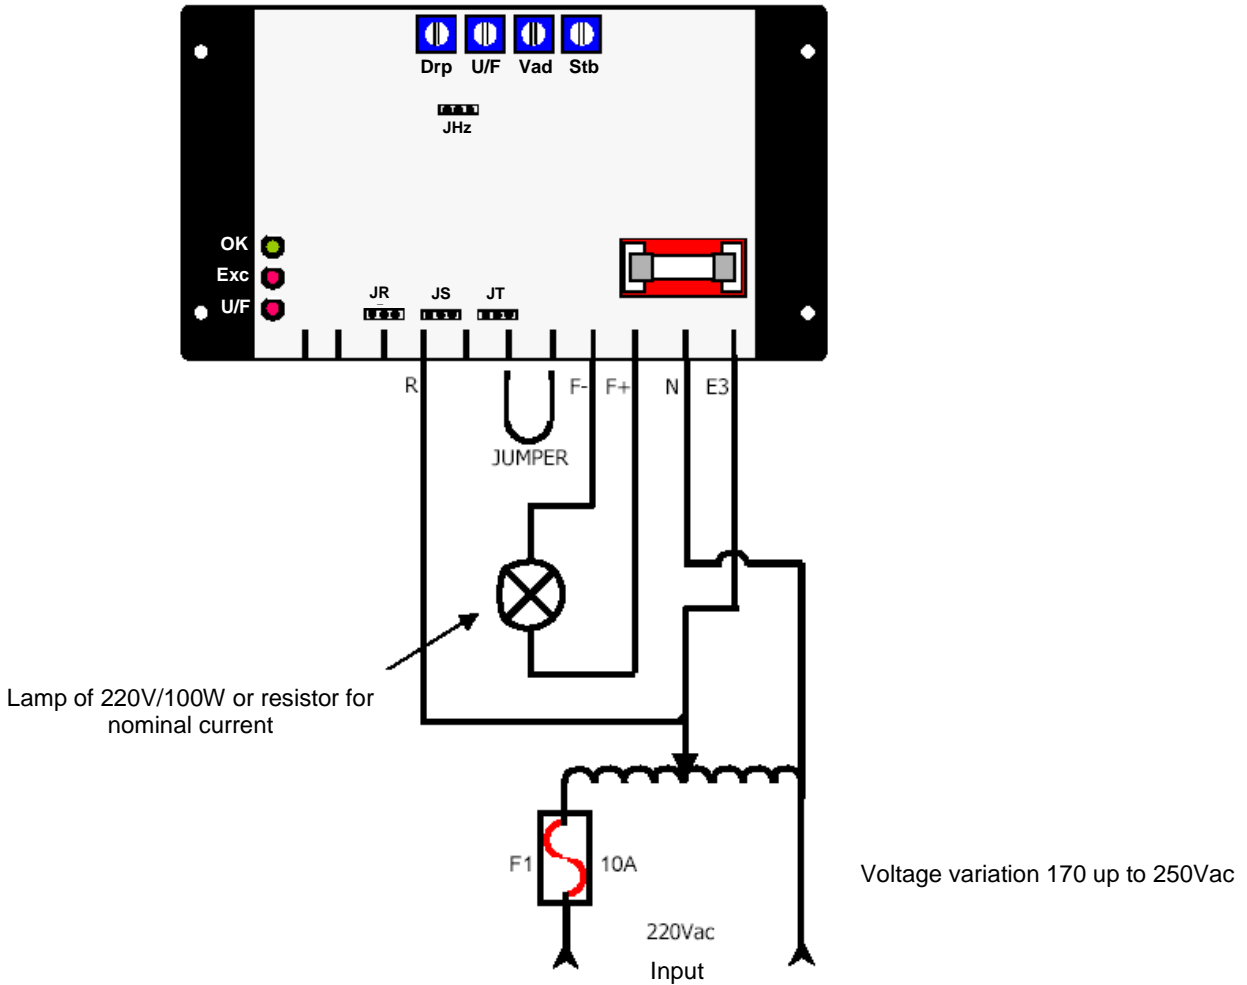

Figure 22.1: Regulator connection without alternator.
1. The lamp voltage must be the same voltage applied on the input. The Figure 22.1 shows an example using a 220V/100W lamp.